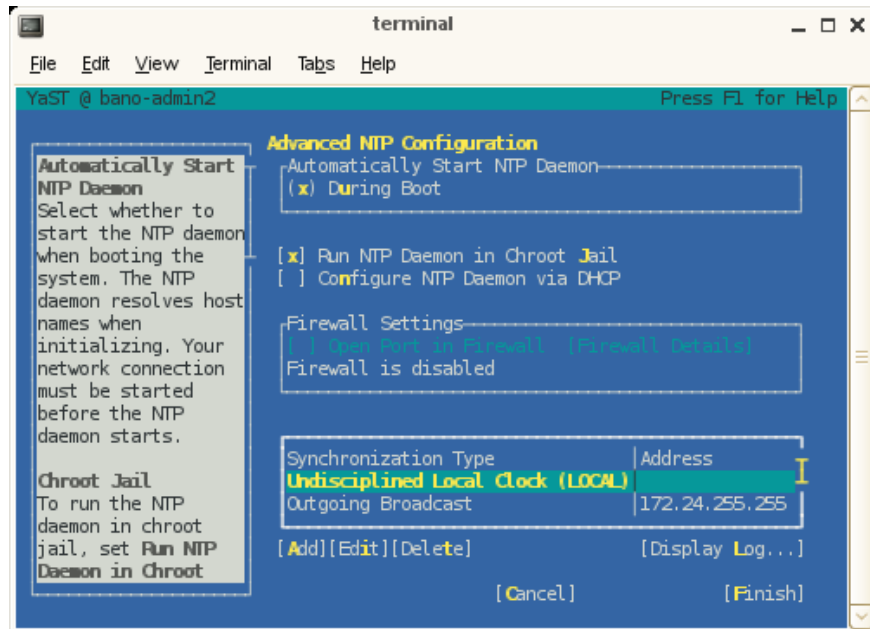

Figure 2-29 Advance NTP Configuration Screen
14. Configure NTP time service as shown in Figure 2-29 on page 70. The example provided is for SLES10 SP2. SLES11 is similar. For RHEL 5.3, you need to configure `ntp` by hand after the `ntp.conf` file is put into place. Click **Next** to continue.